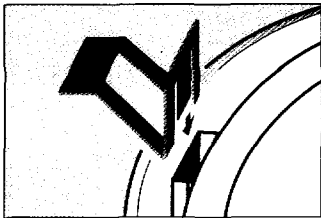

Figure 3
- 1. Install 3 mounting springs to each fixtures as shown. (see figure 3)